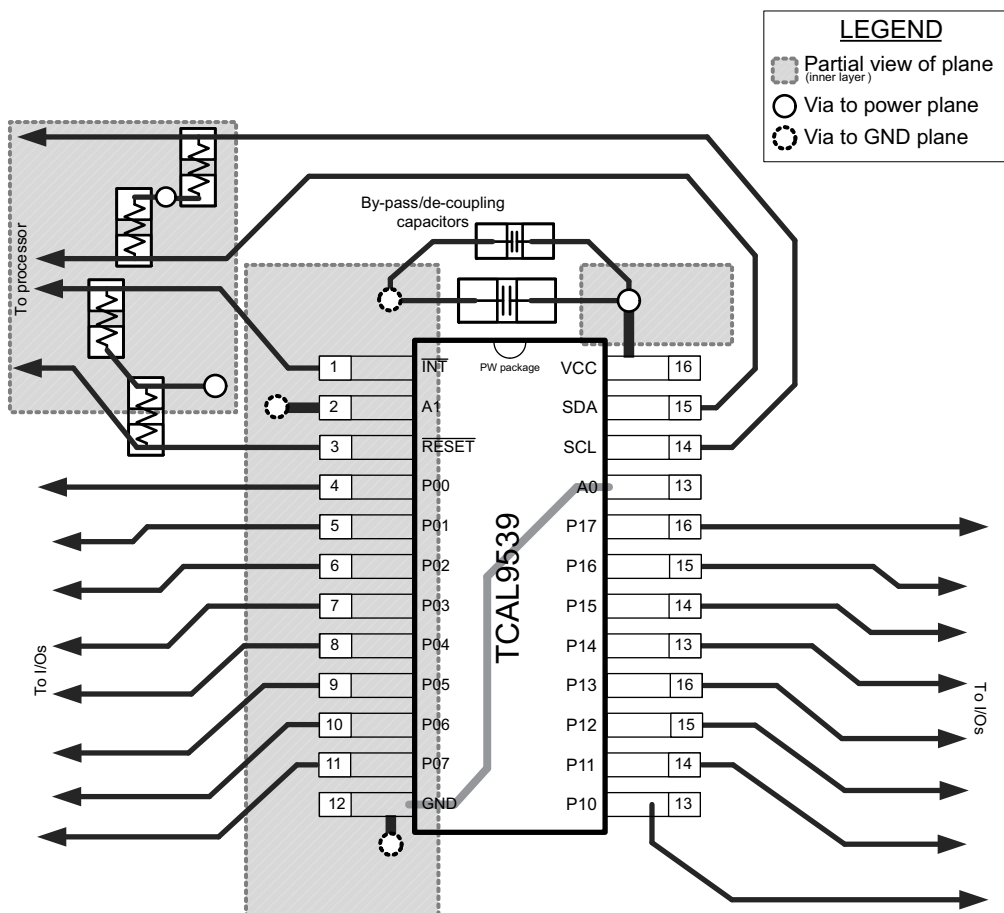

图 9-10. TCAL9539 Layout
In all PCB layouts, it is a best practice to avoid right angles in signal traces, to fan out signal traces away from each other upon leaving the vicinity of an integrated circuit (IC), and to use thicker trace widths to carry higher amounts of current that commonly pass through power and ground traces. By-pass and decoupling capacitors are commonly used to control the voltage on the supply pins, using a larger capacitor to provide additional power in the event of a short power supply glitch and a smaller capacitor to filter out high-frequency ripple. These capacitors should be placed as close to the TCAL9539 as possible. These best practices are shown in FIG 9-10.
For the layout example provided in FIG 9-10, it is possible to fabricate a PCB with only 2 layers by using the top layer for signal routing and the bottom layer as a split plane for power and ground (GND). However, a 4 layer board is preferable for boards with higher density signal routing. On a 4 layer PCB, it is common to route signals on the top and bottom layer, dedicate one internal layer to a ground plane, and dedicate the other internal layer to a power plane. In a board layout using planes or split planes for power and ground, vias are placed directly next to the surface mount component pad which needs to attach to power or GND and the via is connected electrically to the internal layer or the other side of the board. Vias are also used when a signal trace needs to be routed to the opposite side of the board, but this technique is not demonstrated in FIG 9-10.